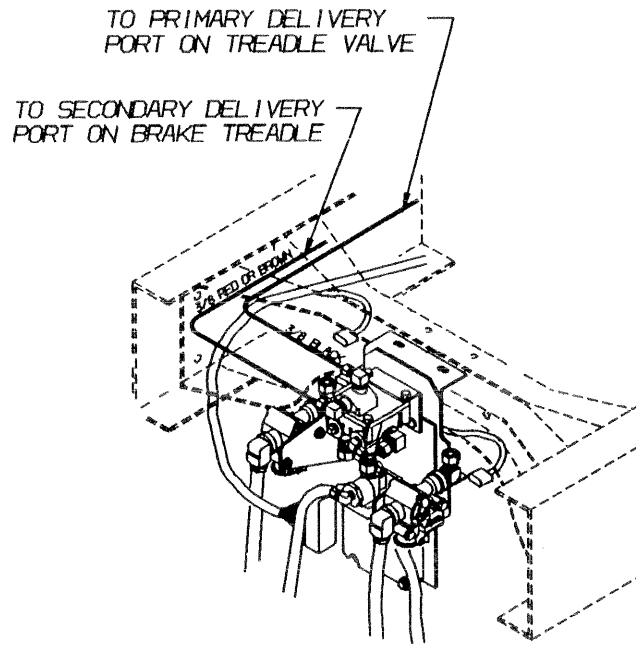

Figure 1
The Bendix R12DC relay valve is located on the chassis crossmember in front of the rear axle. The Bendix R12DC relay valve should have two 3/8" air lines attached to the top portion of the valve. A 3/8" black airline should be attached to the top of the valve (primary port) and a 3/8" red (or brown) airline should be attached to the side adjacent to top port (secondary port). See Figure 1.
5. If airlines are plumbed according to Figure 1, no further action is necessary. Remove wheel chocks.
5. Install the 3/8" black airline in the top port (primary port) of the R12DC relay valve and the 3/8" red (or brown) airline into the side port (secondary port) adjacent to the top port (See Figure 1 on page 1).